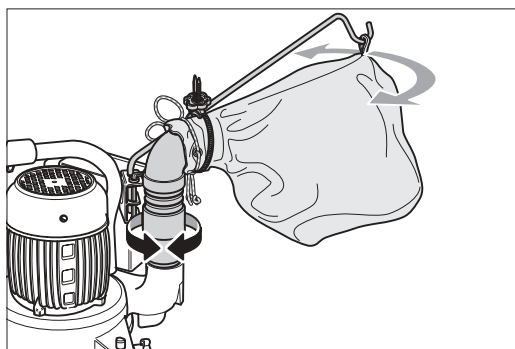

Fig. 7: The pressure hose can also be rotated at the lower plastic pipe stub.
- 1 On the pressure hose, grab the black plastic pipe stub below the hose piece and rotate it toward the desired side. The dust bag will swivel with the black plastic pipe stub (Fig. 7). Do not use the upper curved pipe piece to rotate the pressure hose.